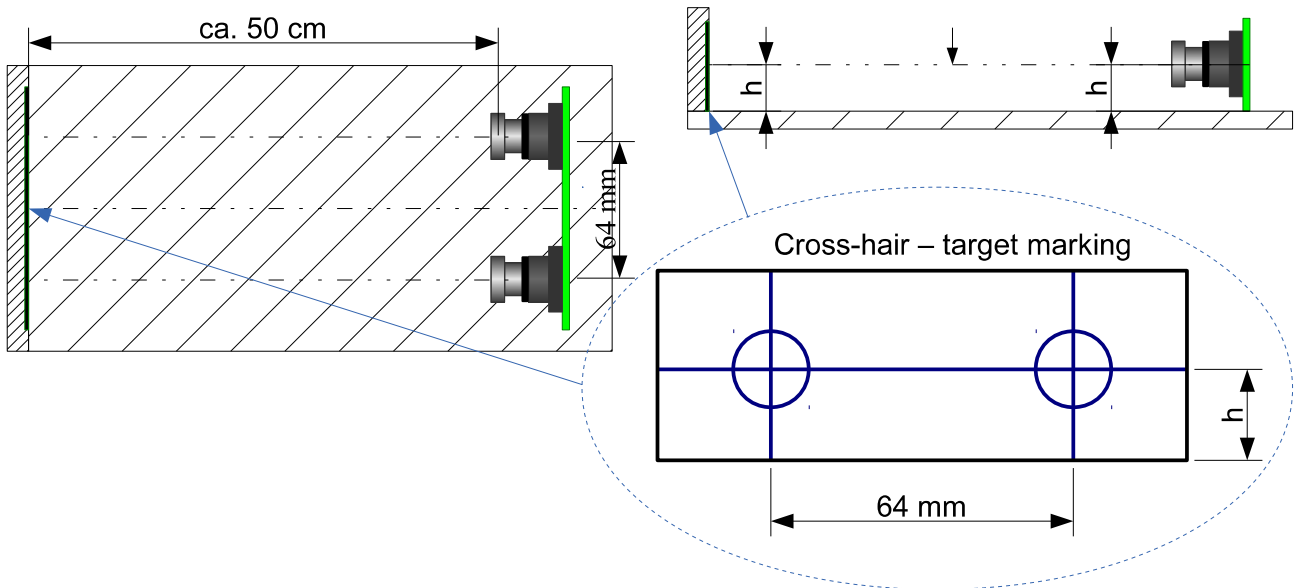
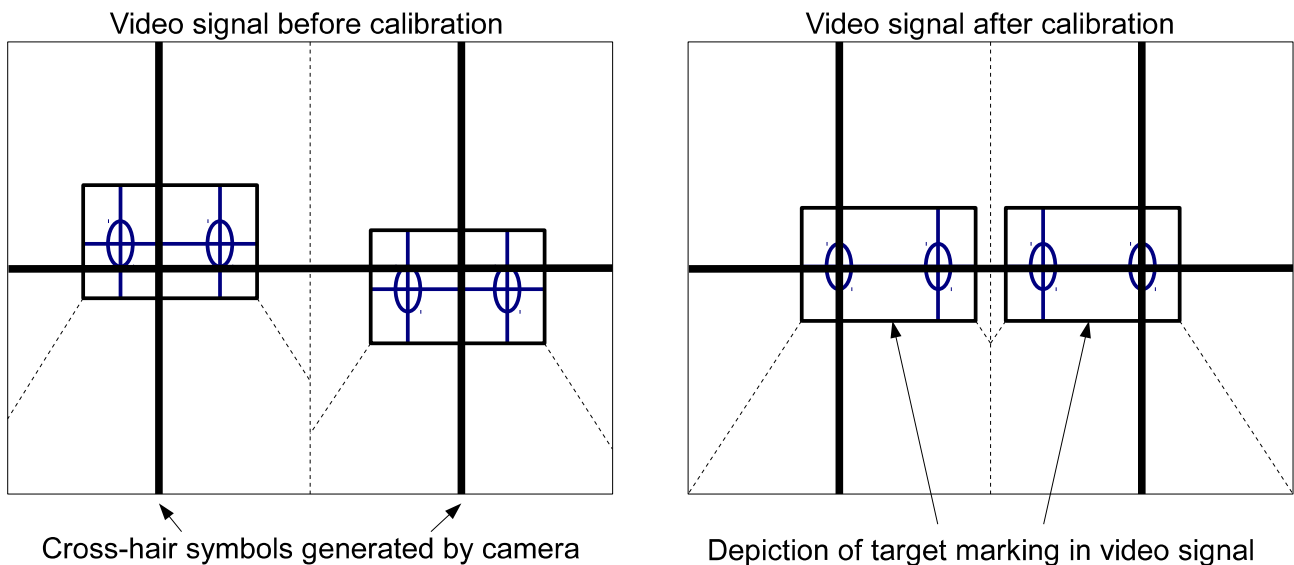

Figure 10: Basic optical calibration device
Figure 11: Video signal before and after optical calibration
table with the necessary accessories. However, acceptable and mostly sufficient results can also be achieved with much simpler means. The basic structure of such a calibration device is shown in Figure 10.
For the calibration procedure the camera is mounted into the calibration device and the camera's DIP-switch S3 is switched to OFF-position in order to activate the calibration cross-hair overlay symbols. Now there are two different groups of cross-hairs visible in the generated video signal – the target marking (see Figure 10) and the statically overlaid cross-hair symbols generated by the camera. The aim of the calibration procedure is to align the centers of the facing cross-hair pairs to each other by mechanical movement of the lens holders. During the calibration the camera should tun in compressed side-by-side 3D-mode (Figure 11).
4. Loosen the screws of the lens holders on the rear of the camera board and manually move the lens holders until the facing cross-hairs match as shown in Figure 11,